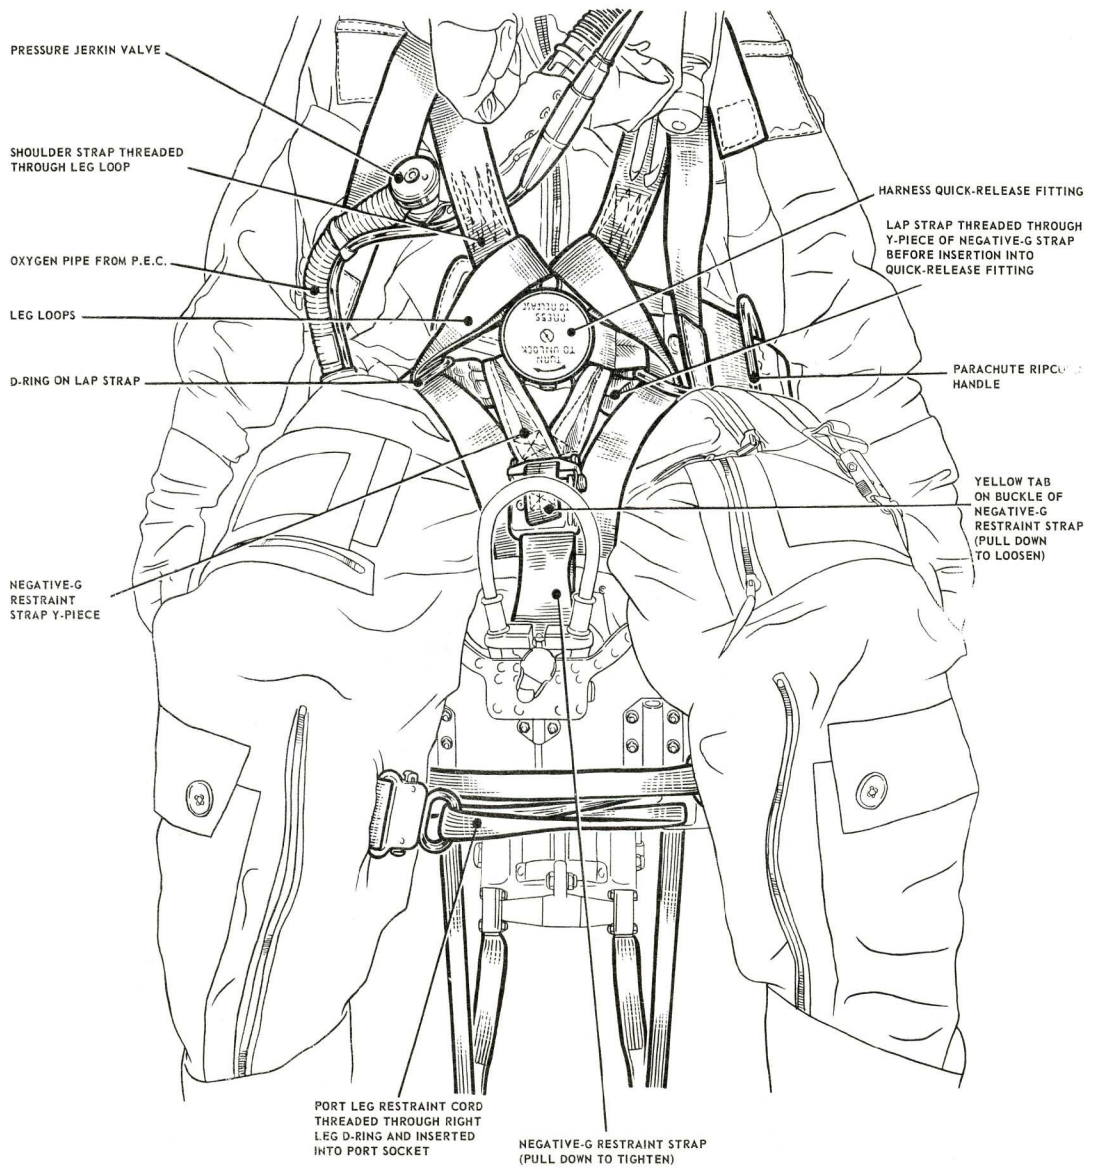

Fig. 8. Arrangement of leg restraint cords
17 The procedure for strapping-in is as follows, referring to figs. 8 to 10 as necessary
- (1) Ensure that the safety pins are correctly fitted in the 'safe for parking' condition.
- (2) Remove the dust cover from the P E.C. and fit it into the stowage on the port side of the seat pan.
- (3) Check that the static rods from the drogue gun and the barostatic time release unit are secured correctly
- (4) Grasp each lap strap and shoulder strap of the harness, pull sharply on each in turn and check for security
- (5) Sit in the seat and adjust its height; ideally the head should be central against the headrest wedge pad. Connect the personal component of the P E.C. to the seat component.
- (6) Connect the personal survival pack lowering line to the corresponding fitting on the life jacket or pressure jerkin as appropriate, ensuring that it passes outside the left leg.
- (7) Pass the left leg restraint cord through the right leg garter D-ring and plug it into the socket above the left snubbing unit. Pass the right leg restraint cord through the left leg garter D-ring and plug it into the socket above the right snubbing unit. Pull sharply on both cords to ensure that they are locked correctly in their sockets. It is immaterial which cord is secured first but it is essential they are not interlaced (*fig. 8*).